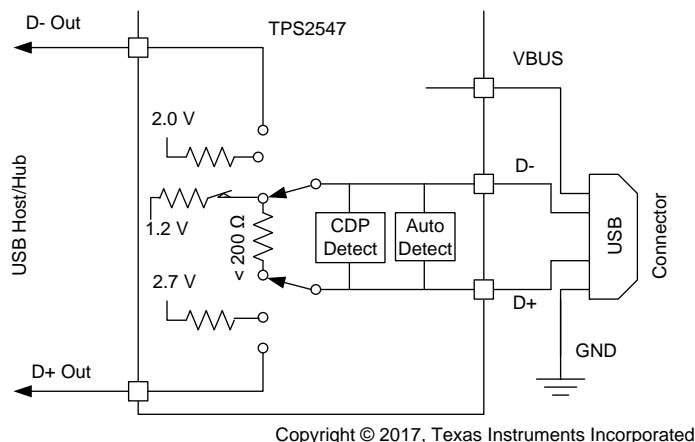

Figure 31. DCP 1.2-V Charging Scheme
1.2-V charging scheme is used by some handheld devices to enable fast charging at 2 A. TPS2547 supports this scheme in the DCP-Auto mode before the device enters BC1.2 shorted mode. To simulate this charging scheme D+/D– lines are shorted and pulled-up to 1.2 V for fixed duration then device moves to DCP shorted mode as defined in BC1.2 specification. This is shown in Figure 31.